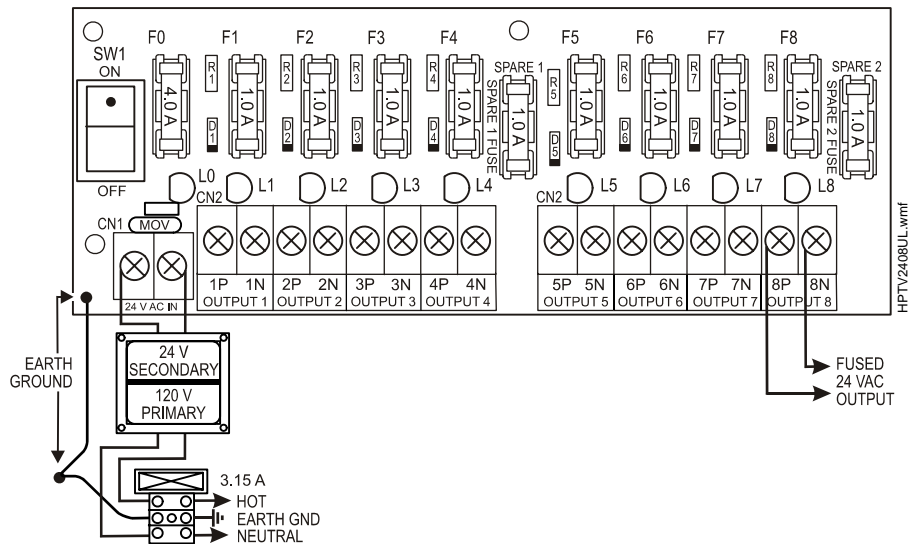

Figure 2
5. Connect incoming AC (120 VAC, 60Hz) into the incoming Fuse block input observing polarities (see Figure 2). Connect ground leads as shown in diagram.